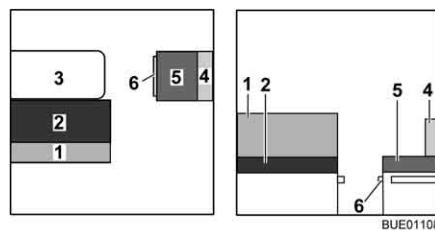
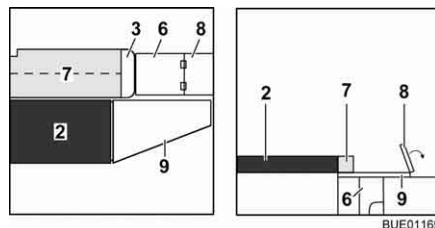

Fig. 130 Prior to conversion
Fig. 131 During conversion
- Convert the table (Fig. 130,3) to a bed foundation (see section 6.10).
- Remove the back cushion (Fig. 130,1) and lay it aside.
- ▷ Depending on the model, the back cushion (Fig. 130,1) can be used instead of the additional cushion (Fig. 131,7).
- Remove the back cushion (Fig. 130,4) and the seat cushion (Fig. 130,5) and lay them aside.
- Pull out the bedding box extension (Fig. 131,6).
- Fold the seat base extension (Fig. 131,8) outwards.
- Unfold the additional cushion (Fig. 131,7) and lay it on the table.
- Hook the bed widening (Fig. 131,9) into the recesses on the bench seats.